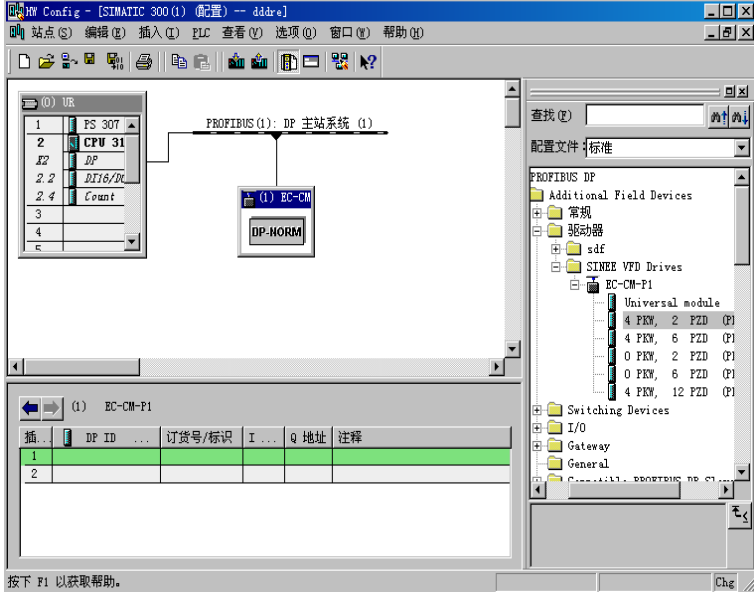

Figure 7-16
12. As shown in Figure 7-16 As shown, select slot 1 and double-click the icon of 4PKW 2 PZD in the right column of the figure below.